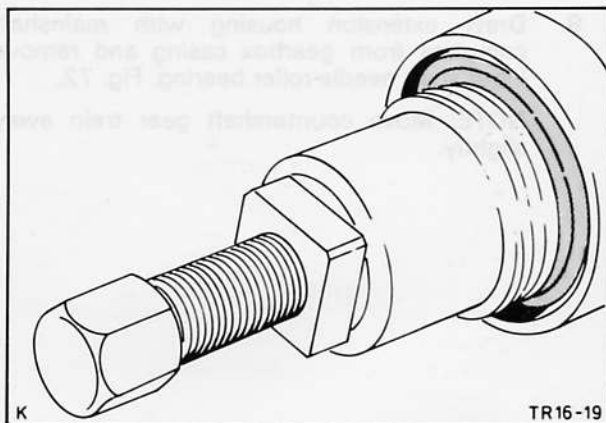

Fig. 69. Remove oil seal with Special Tool No. 17-001
5. Remove extension housing oil seal with Special Tool No. 17-001, Fig. 69.